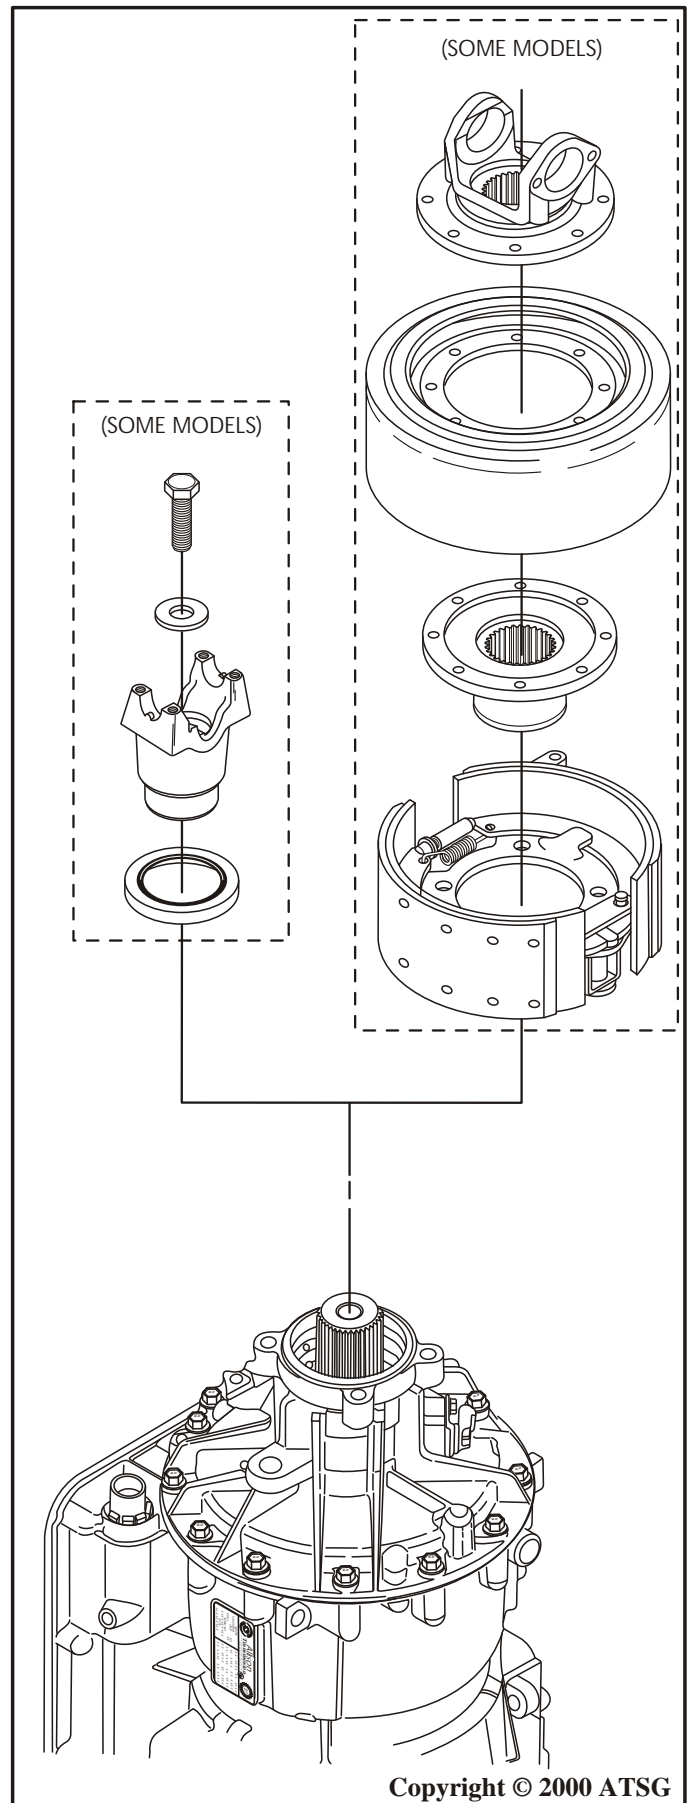

Figure 58
31. Rotate transmission case so that the extension housing is facing up as shown in Figure 58.
32. Remove the yoke from the transmission if it is equipped with one, as shown in Figure 58.
- Note:** Some models are equipped with the parking brake as shown in Figure 58. Four Wheel Drive models will have neither.